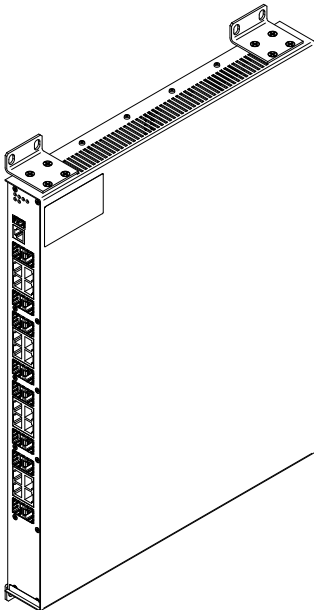

Figure 11: Vertical mounting on the wall
- Use the pre-mounted brackets included in the delivery as shown in the following figure (see fig. 11).